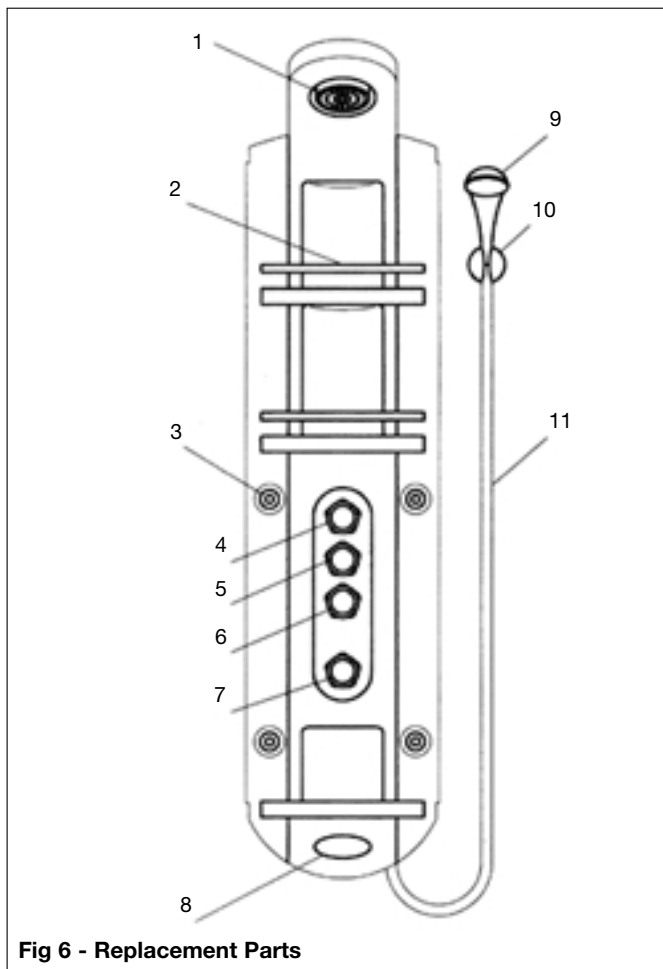

Fig 6 - Replacement Parts
The shower panel is turned on and off using the $\frac{1}{4}$ turn control knobs (items 4-6, Fig 6, page 8) and **not** the temperature control knob (item 7), as this valve does not shut off.